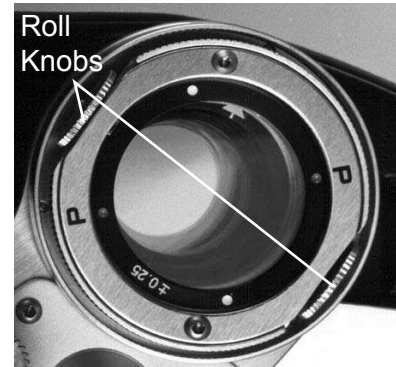

Figure IU-8 Cross Cylinder Unit
4. A thumb-operated Roll Knob provides for rapid “flipping” of cross cylinders. Refer to Figure IU-8.